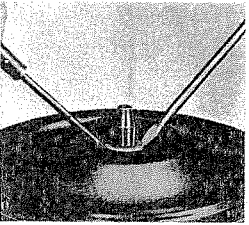

FIGURE 3
4. Remove carbon and seat assemblies by prying them loose with a screwdriver. (see Figure 3)